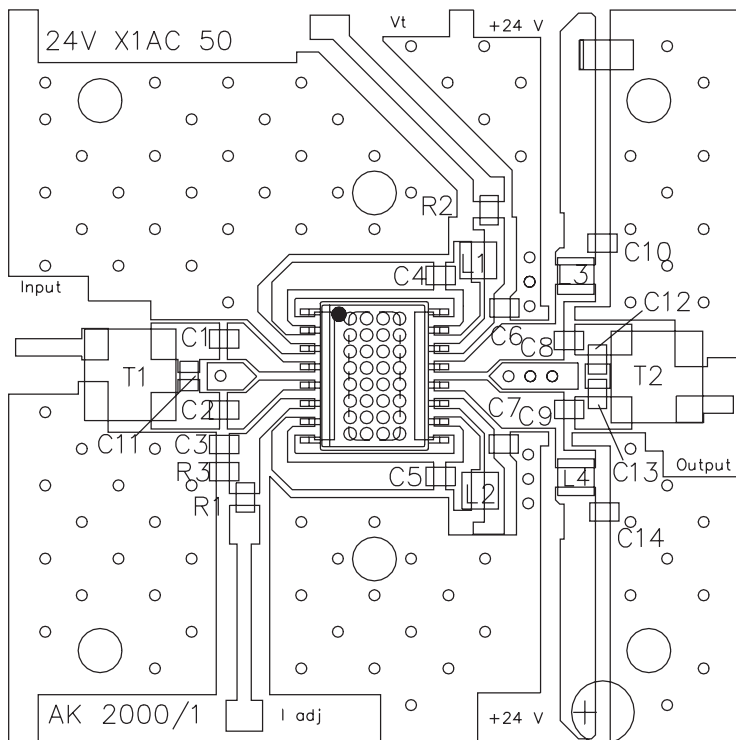

Figure 7: Evaluation Board Layout
(1) Measured with baluns on the input and output of the device.
(2) Parts measured with 77 channels, +56 dBm V power, 13.5 dB tilt at 870 MHz.
(3) Parts measured with 110 channels, +52 dBm V power, 13.5 dB tilt at 870 MHz.
4. All specifications as measured on Evaluation Board (see Figures 7 & 8).